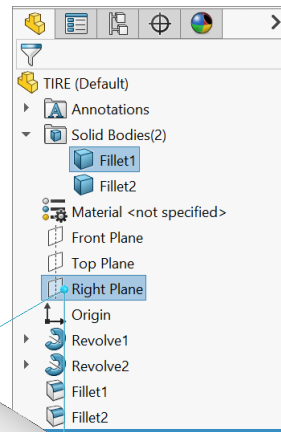

Fig. 28
Step 1. Expand Solid Bodies folder in the Feature Manager. **Ctrl click Fillet1 body and Right Plane** to select Body and Plane, **Fig. 28**.